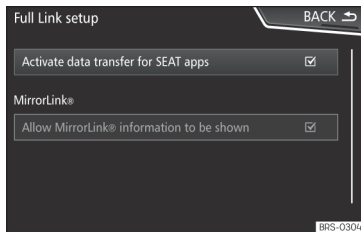

Fig. 210 Full Link Setup
- In the main menu for the Full Link setup, select **Activate data transfer for SEAT apps** »» Fig. 210: